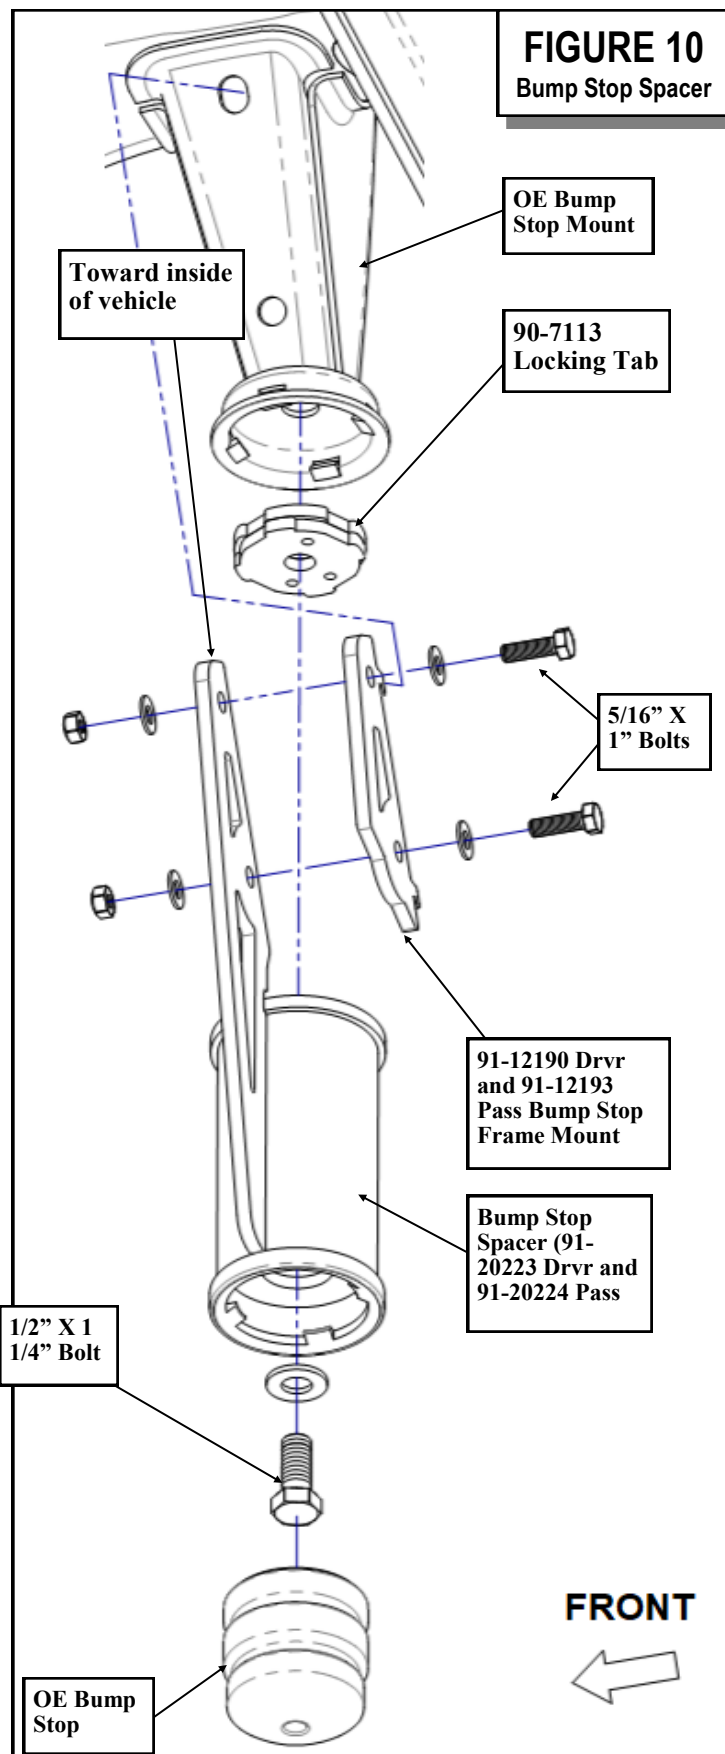

FIGURE 10
64. Install the bump stop frame mount (**91-12190 Drvr** and **91-12193 Pass**) to the holes in the frame. The "J" hooks will lock into place. The bump stop frame mount will be oriented toward the rear of the vehicle. See FIGURE 10.